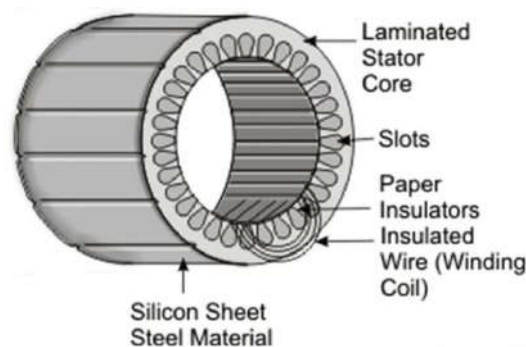

Figure.8.2. Stator construction.
6.5.1. STATOR. The stator of an induction motor is similar to that of a synchronous generator. It is made up of number of stamping, which are slotted to receive the winding. The stator carries a three phase winding and is fed from a three phase supply. It is wound for a definite number of poles, the exact number of poles determined by the requirements of speed. The construction of stator is shown in the figure 8.2.